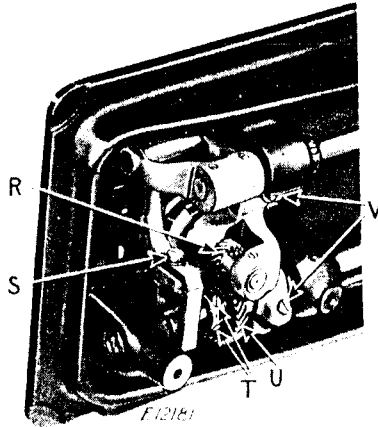

Fig. 19. Adjustment of Hook Saddle
Loosen the two screws (T, Fig. 19) in the hub of the hook driving gear (U, Fig. 19) and tap this gear to the right or left on the hook driving shaft until the point of the hook is at the center of the needle. Tapping to the right gives an earlier hook timing, and to the left a later hook timing. Securely tighten the two set screws (T) in the gear.
Turn the balance wheel over toward you until the point of the sewing hook is at the center of the needle. Loosen the two screws (V, Fig. 19) underneath the bed of the machine and move the hook saddle to the right or left, as may be required, until the point of the hook is as close to the needle as possible without striking it, then securely tighten the two screws (V).
Remove the throat plate; clean the lint and dust from between the feed points and replace the throat plate; tip the machine back and turn the balance wheel towards you until the feed dog is at its highest position; loosen screw (S, Fig. 19) in the feed lifting cam fork on the feed bar and raise or lower the feed dog, as may be required, and retighten the screw (S).